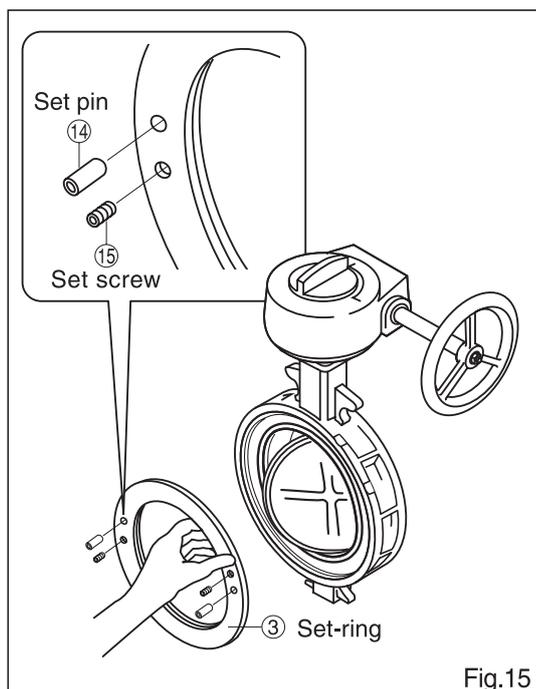

Fig.15
1. Tighten up the Set screw15 of the set-ring3 by wrench, and then pull out the set pin14 and set-ring3 (Fig.15)